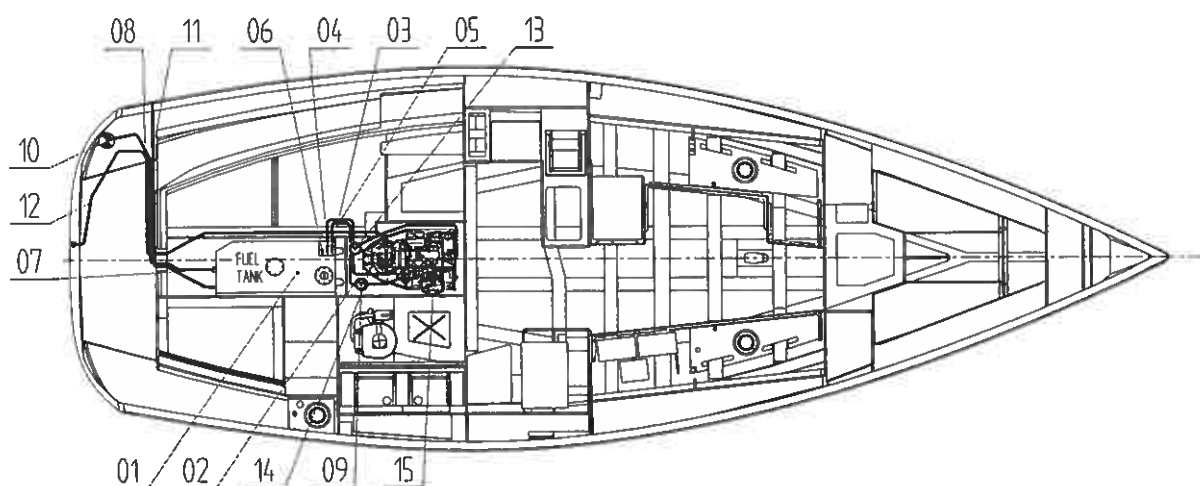

Figure 8
The fuel required for engine operation is stored in a fuel tank. The fuel tank has a capacity of 95 liters. The fuel tank is stowed under the aft cabin berth (see Fig. 8). At the top is an opening for inspection and cleaning. Fuel tank is accessed from the aft cabin by lifting the berth panels.
- Fill the fuel tank with diesel via the deck filler. The position of the deck filler is shown in Fig.8